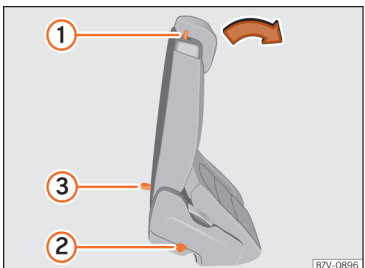

Fig. 137 Second row of seats:: access aid controls.
- Push the lever **»» Fig. 137 ①** forwards and fold the backrest of the rear seat. This seat folds forward completely **»» ⚠** and can still be moved further forward.
- Make sure that the rear seat is securely engaged so that the seat belts can provide proper protection in the rear seats. The red mark » **Fig. 137**  should no longer be visible »  in **Folding the rear seats down as a carao surface on page 144.**
If the lever **» Fig. 137 ①** does not work, e.g. after an accident, the seats on the second row can be folded forwards from the third row to allow vehicle occupants of the third row of seats to get out of the vehicle **» ⚠**.
- Pull the handle **»» Fig. 137 ③** back and fold the backrest of the rear seat. The complete rear seat folds forward **»» ⚠**.
»» Fig. 137 ② indicates that the seat backrest is not engaged. The mark is no longer visible when it is correctly engaged.